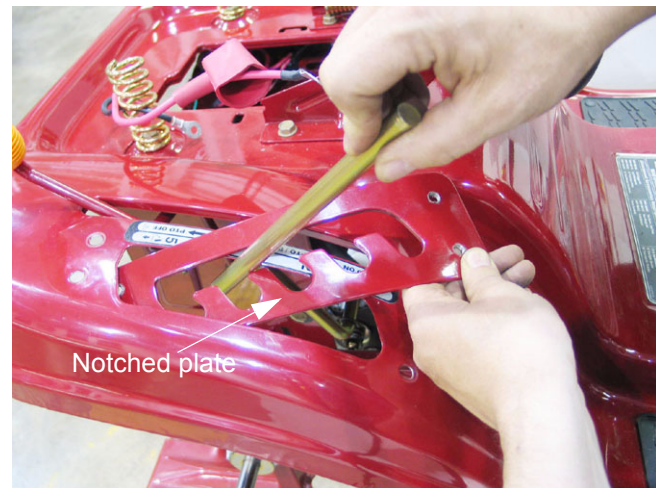

Figure 5.10
- 5.10. Remove the notched plate that surrounds the lift lever using a T-40 Tor-X driver. See Figure 5.10.